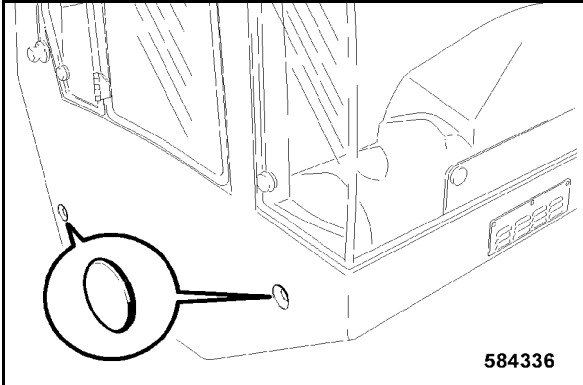

Fig. 217
- Cover all lateral fastening screws with plastic caps (Fig. 217).